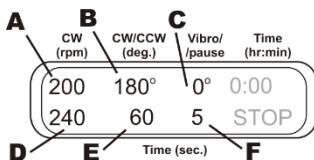
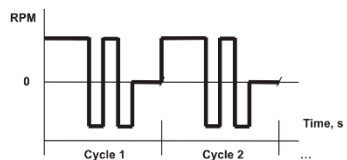

Figure 7.
Figure 8.
6.9.3. **Rotational + Reciprocal motions + Pause.** Set the speed (40-1000 rpm, fig. 7/A) and time (1-250 s, fig. 7/D) of rotational motion. Set the angle (30-360°, fig. 7/B) and time (1-250 s, fig. 7/E) of reciprocal motion. Reciprocal and rotational motions have the same speed. Set the turning angle of vibro motion to zero (fig. 7/C). Set the time of vibro motion (1-5 s, fig. 7/F) - this is the duration of pause. Graph in figure 8 shows motion in this mode.